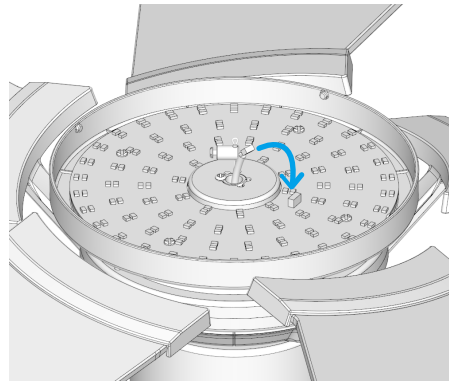

Fig. 4.3
4.3 Connect the wire plug to the light kit's terminal block as demonstrated in Fig. 4.3.